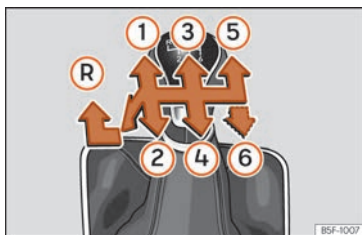

Fig. 52 Gear shift pattern of a 5 or 6-speed manual gearbox.
The position of the gears is indicated on the gearbox lever » » » Fig. 52.
- With the gearbox lever in neutral, push it downwards, move it to the left as far as it will go and then forwards to select reverse » » » Fig. 52 (R).